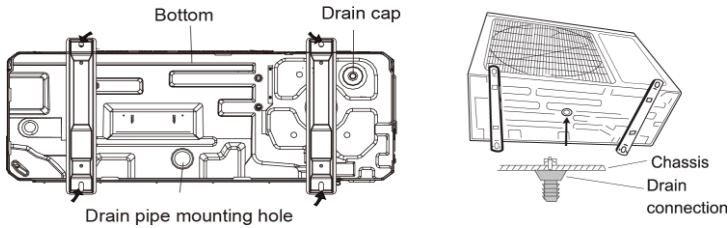

Fig. 4.8
5.2.2 Condensate Drainage of the Outdoor Unit (Only for the heat pump unit) (Fig. 4.8)